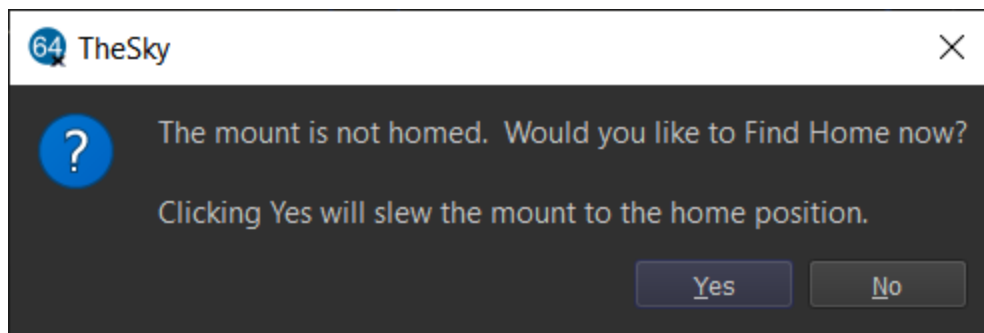

Figure 32: Slewing the mount to the home position is *not* required when measuring the motor index angles.
Or use a USB-C to USB-A adapter and plug the USB-A into an external hub that has a USB-A port (see Figure 32).
6. Click **Telescope, Connect**. When prompted if you want to slew the mount to the home position, click **No** (see Figure 32).